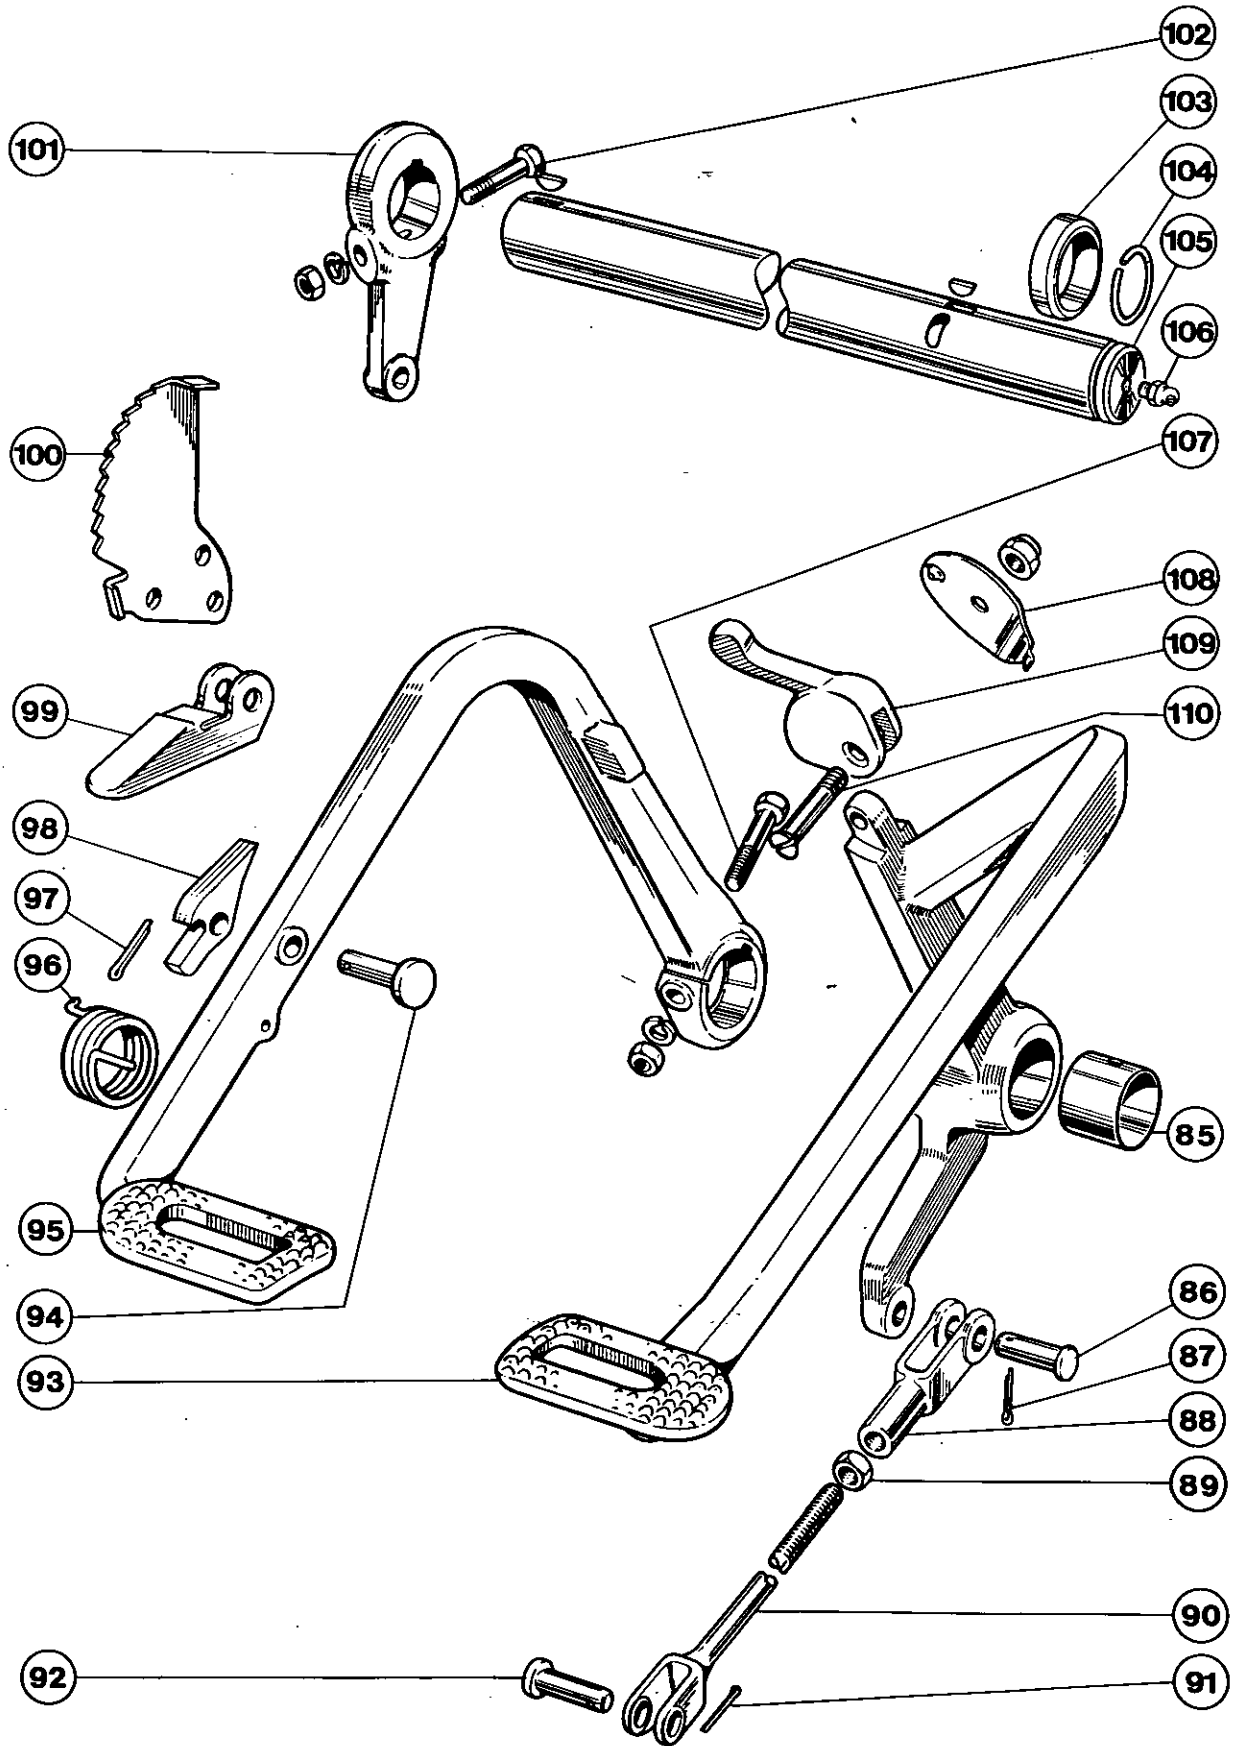

FIG. 43
2. Fig. 43. Remove the split pin (87) and the clevis pin (86) securing the brake rod to the R.H. pedal (93).
3. Remove the split pin and cotter pin securing the L.H. brake rod to the cross shaft arm (101).
4. Remove the split pin (91) and the clevis pin securing the brake rod (90) to the R.H. brake lever.
5. Repeat item 4 for the L.H. brake lever pull rod.
6. Remove the snap ring (104), and the washer (103), then slide the R.H. brake pedal off the cross shaft (105).
7. Slacken the pinch bolt securing the L.H. cross shaft arm (101), then pull off the arm.
9. Remove the pinch bolt (107), nut and spring washer, securing the L.H. brake pedal (95) then slide the pedal off the shaft. Remove the Woodruff Key.
10. To remove the locking latch (109), remove the screw (110) and lift off the latch (109) and plate (108). To service the parking latch, see operation 5A-28-22.
1. If necessary, press a new bush (85) into the R.H. brake pedal (93).
2. Fit a new Woodruff Key to the R.H. end of the cross shaft (105), then refit the L.H. brake pedal (95) and secure with the pinch bolt (107), and nut and a spring washer.
3. Slide the cross shaft through transmission case. Fit a new Woodruff Key, then refit the cross shaft arm (101) and secure it with a pinch bolt (102), nut and spring washer.
4. Re-assemble locking latch (109) and plate (108) to the R.H. brake pedal (93), refitting the screw (110) and self locking nut.
5. Slide the R.H. brake pedal on to the cross shaft, refit the washer (103) and securing it with the snap ring (104).
6. Refit the brake rods (90), connecting them to the pedals and the brake levers, refitting the clevis pins (86 and 92) and new split pins (87 and 91) on both sides of the tractor.
Fig. 43. The parking latch is secured to the L.H. brake pedal by a clevis pin and split pin (97). To disassemble the latch, remove the split pin and clevis pin. This then frees the latch (99), pawl (98) and spring (96). The sector (100) is secured to the transmission case by three bolts. Examine the pawl, pin and sector teeth for wear and replace as necessary.